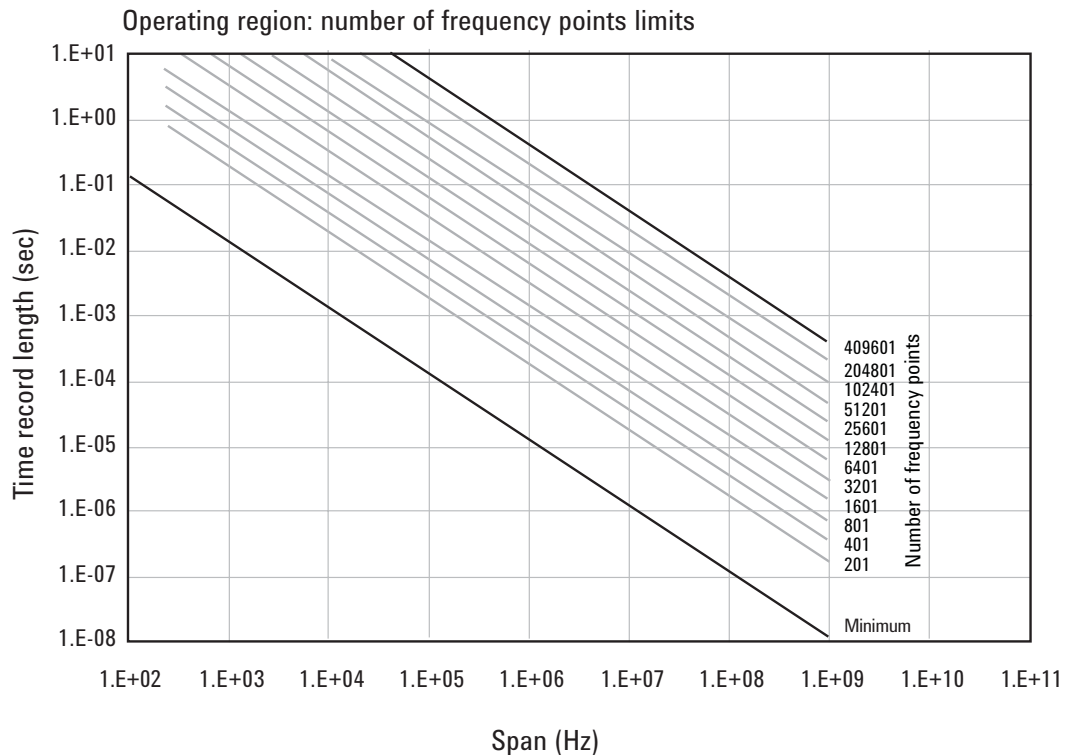

Figure 3. The user-settable parameter, frequency points, begins to determine the boundaries of the time record length and frequency span operating region.
The operating region is described in terms of span and time record length. For a given window type it could just as easily be described in terms of span and RBW. Figure 3 shows the effects of the number of time points the 89600B VSA software is allowed to collect. Because sample spacing is inversely proportional to span, the record length decreases as span increases. Although a family of lines is shown, only two define the operating region at any one time. The lowest line gives the smallest time record length allowed for any given span. The position of this line is determined by minimum number of time points (16) the 89600B requires in a time record. The line that defines the upper time record length boundary is positioned by the maximum number of time points the 89600B allows in a time record. The maximum number of time points is determined by the Frequency Points setting (**MeasSetup > ResBW > Frequency Points**). The 89600B VSA is constrained to operate in the region between these two lines. Note that the operating lines of Figure 3 are the same for all InfiniiVision Series models.